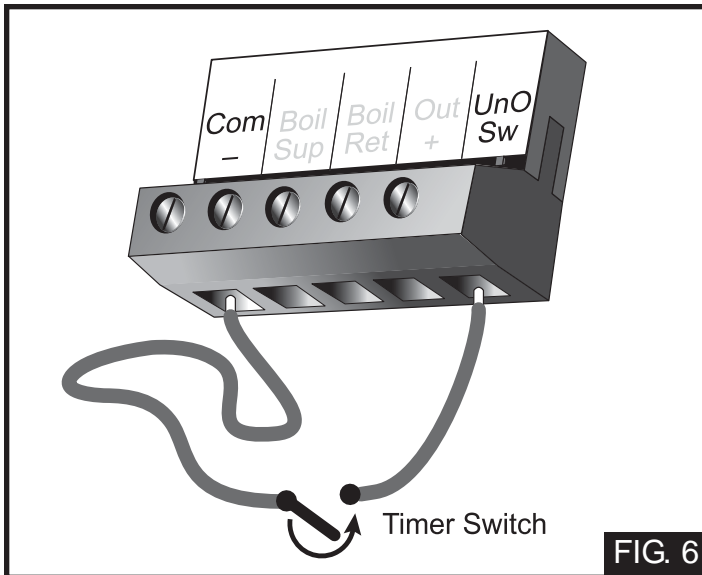

FIG. 6
To provide greater energy savings, the control has a setback feature (FIG. 6). With setback, the supply water temperature in the system is reduced when the building is unoccupied. By reducing the supply water temperature, the air temperature in the space may be reduced even when thermostat(s) are not turned down. Any time the UnO Sw (5) and the Com - (1) are connected, the control operates in the UnOccupied mode. When in the UnOccupied mode, the UNOCC segment is displayed in the LCD. The control adjusts the supply water temperature based on the UNOCC settings made in the control. This feature has no effect when the control is used in the External Input mode.